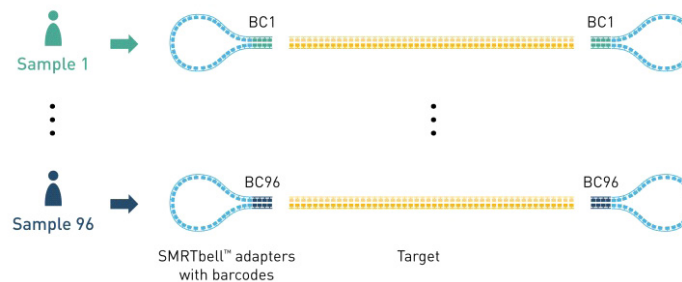

Figure 7 Barcoding using Barcoded Adapter
3. Barcoded Adapters (highly recommended; Figure 7)
The third multiplexing solution adds the barcode to the SMRTbell adapter, as shown in Figure 7. In this method, the barcode is introduced to each amplicon through ligation during SMRTbell library preparation. Similar to Barcoded Universal Primers, Barcoded Adapters are commercially available and may be purchased from PacBio.